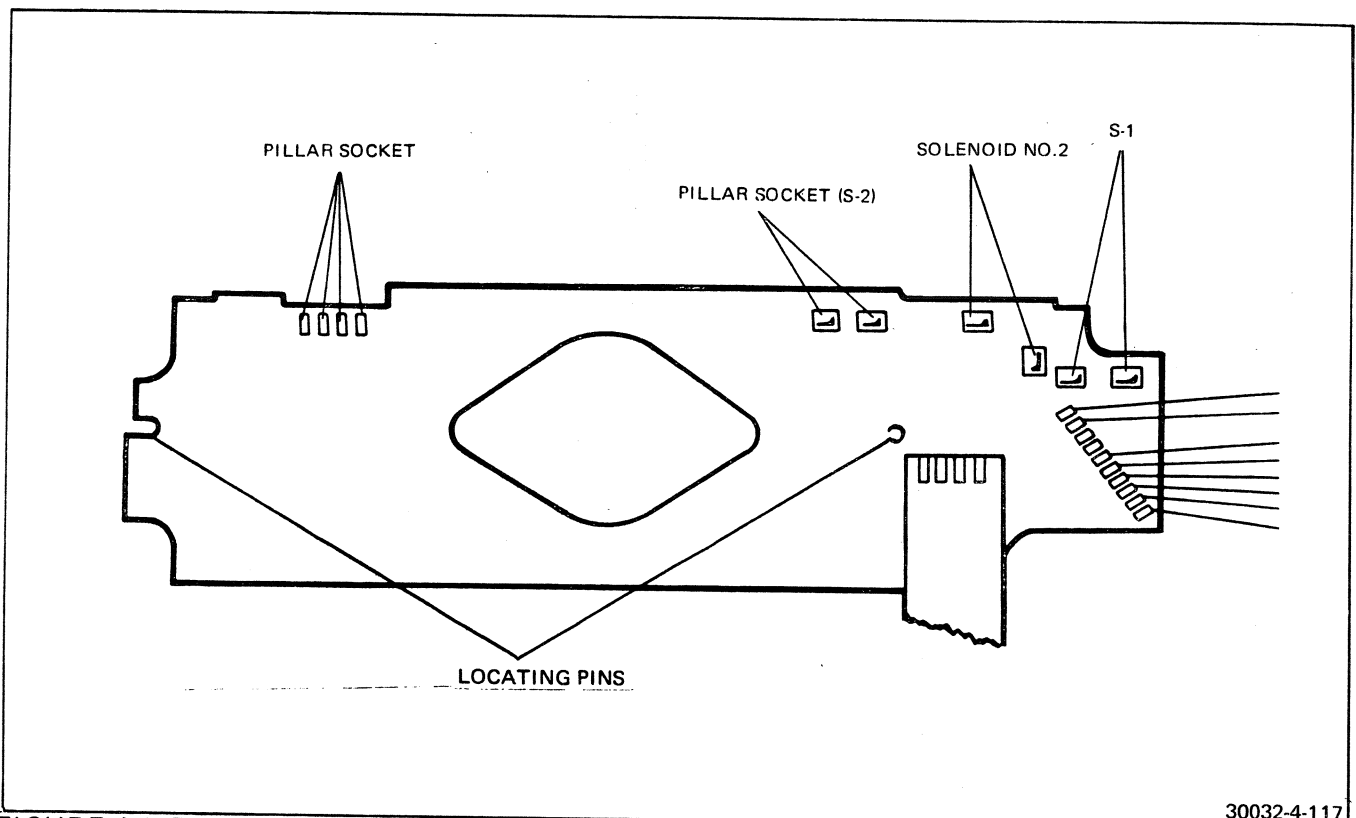

FIGURE 4-117 SUBSTRATE SOLDER CONNECTIONS
- Align locating pins and contact tabs and carefully press the substrate into place. See Figure 4-117.